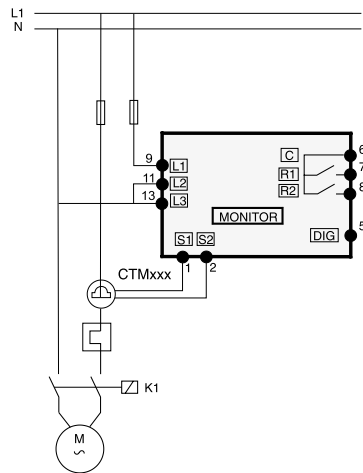

Fig 2. Single-phase connection example.
2. For single-phase connection see fig 2.